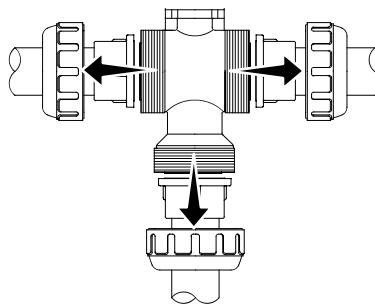
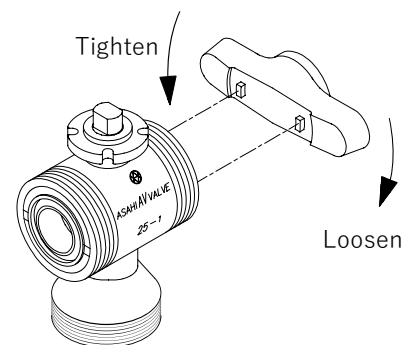

Figure 9.1-2
Figure 9.1-3
- 4) Loosen the left and right union nuts with a belt wrench (Figure 9.1-2).
- 7) Remove the O-rings (A) attached to both ends of the body section.
- 9) Rotate the manual valve handle to remove the carrier. (Figure 9.1-3)
- 10) Remove the seat, O-ring (B), and O-ring (C) attached to the carrier without damaging them.
- 13) Remove the seat and O-ring (C) from the body without damaging them.
- 14) Remove the O-ring (D) and O-ring (E) from the stem without damaging them.